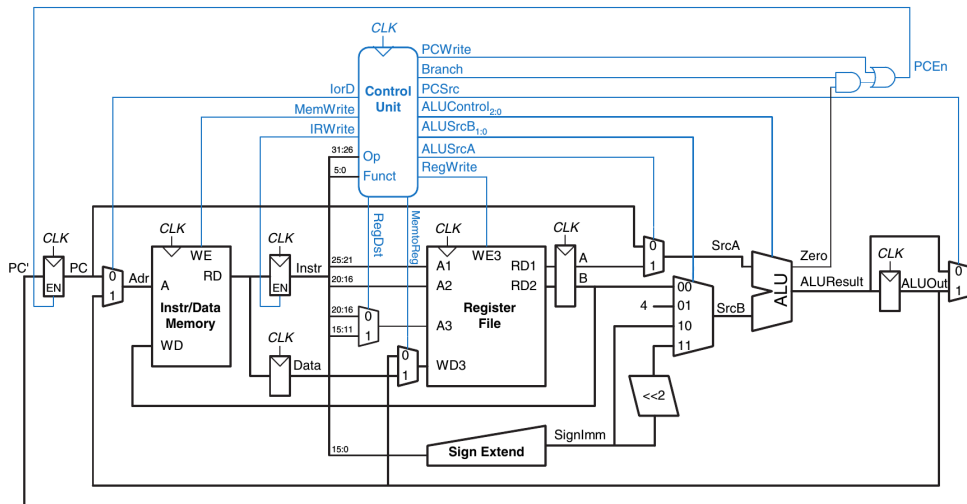
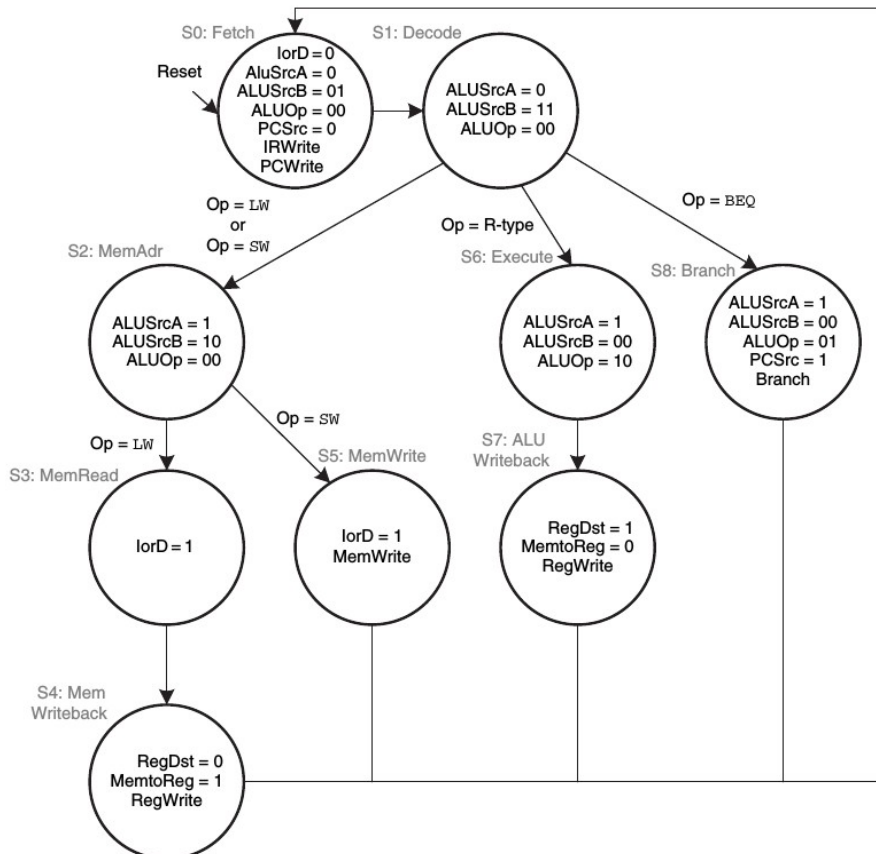

Figure 2: Multi-cycle MIPS
Figure 3: Multi-cycle MIPS controller FSM
5. Modify the multicycle MIPS processor to implement one of the following instructions. See Appendix B for a definition of the instructions. Mark up a copy of Figure 2 to indicate the changes to the datapath. Name any new control signals. Mark up a copy of Figure 3 to show the changes to the controller FSM. Describe any other changes that are required.